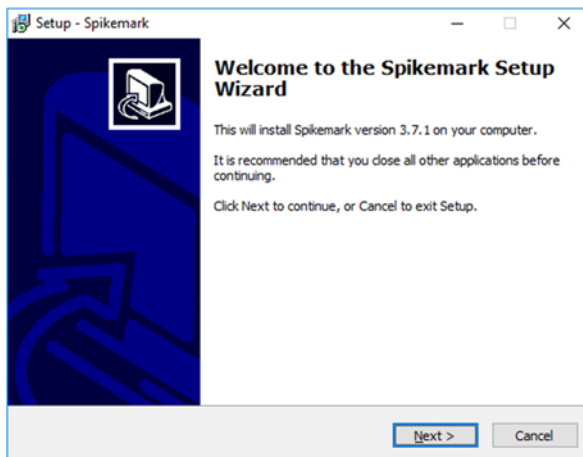

Figure 2
4. In the **Welcome to Spikemark Setup Wizard** window, click **Next** (Figure 2).